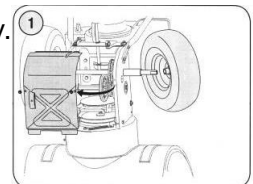

Figure 24
b. Remove the right-hand wheel by removing the screw and bell washer which secure it to the axle. See Figure 24.